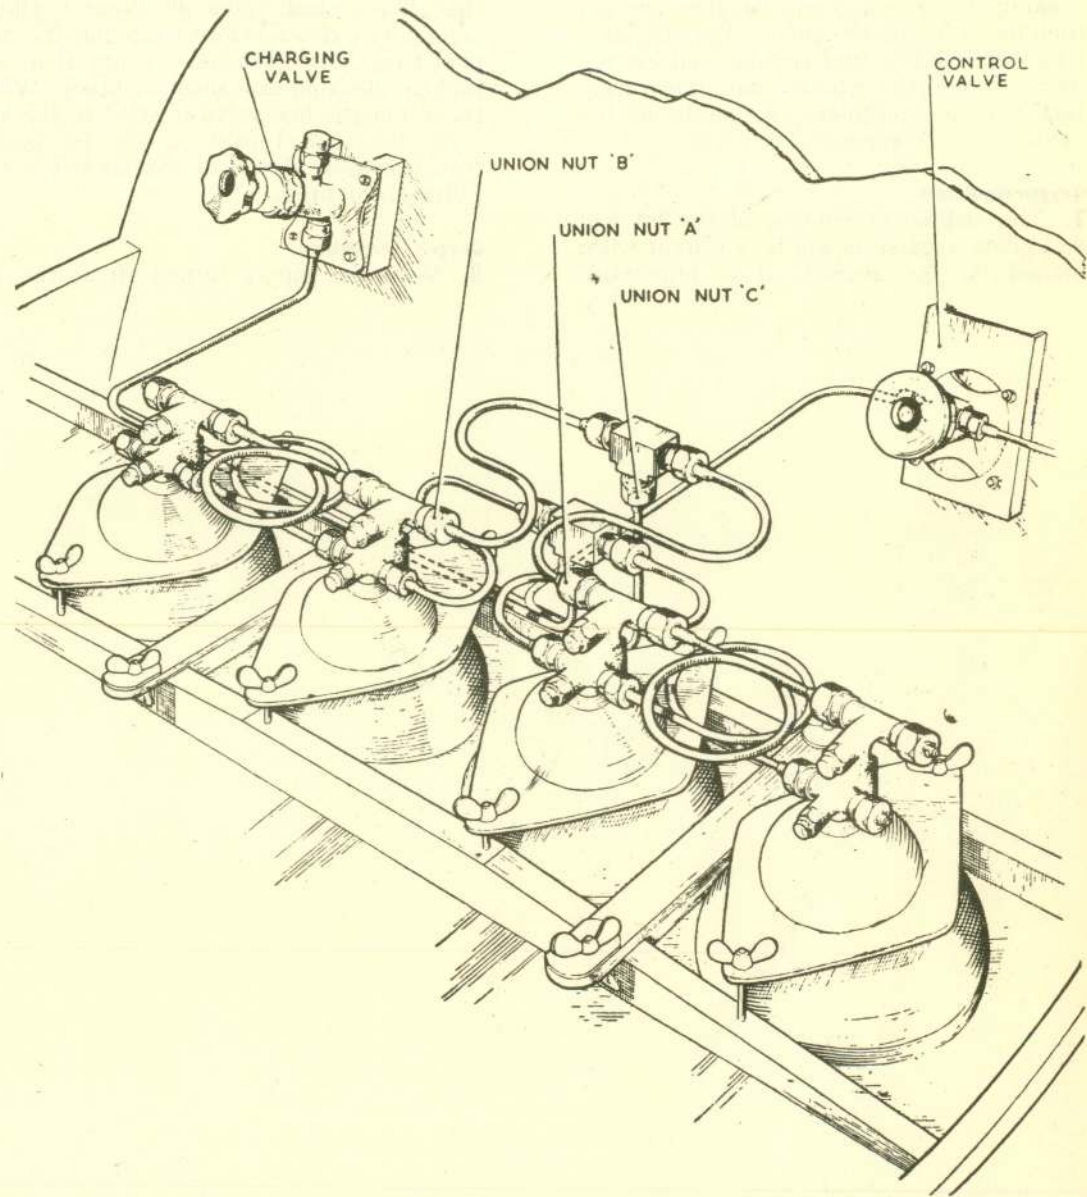

Fig. 3. Pipe connections on oxygen cylinders
6. When any cylinder has to be removed, the pressure must first be released and the oxygen allowed to escape *slowly* until the contents gauge on the 1st pilot's regulator registers *zero*; it should be noted that the control valve on this regulator must be turned ON to obtain a reading on the gauge. If one or both of the port cylinders have to be removed, union nut "A" (fig. 3) should be slackened to release the pressure and, similarly, union nut "B" should be loosened